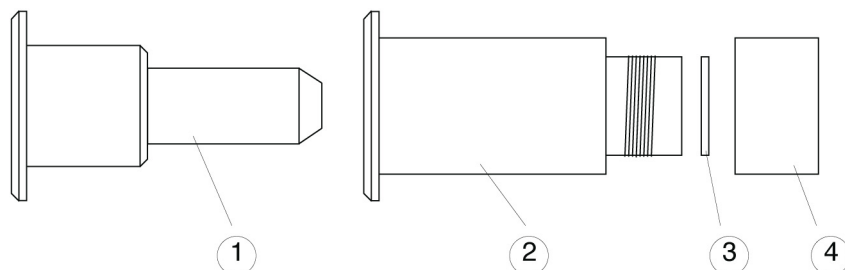

Fig. 5.4: Fiber test adapter
- Insert the appropriate adapter (as required for the optical fiber system used; see Fig. 5.4) into the fiber testing device located to the left of the SMA-plus jack (see Fig. 5.1, item 4). Verify that the protective glass of the adapter is free from dirt particles, burns and defects.